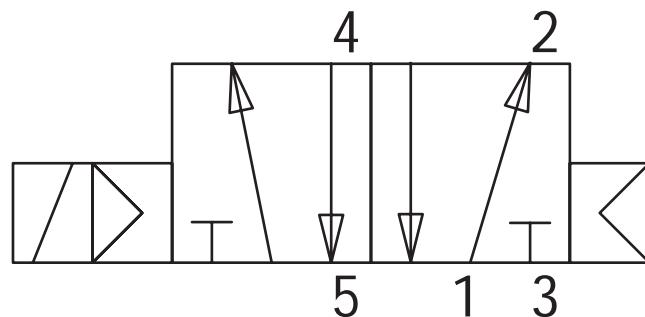
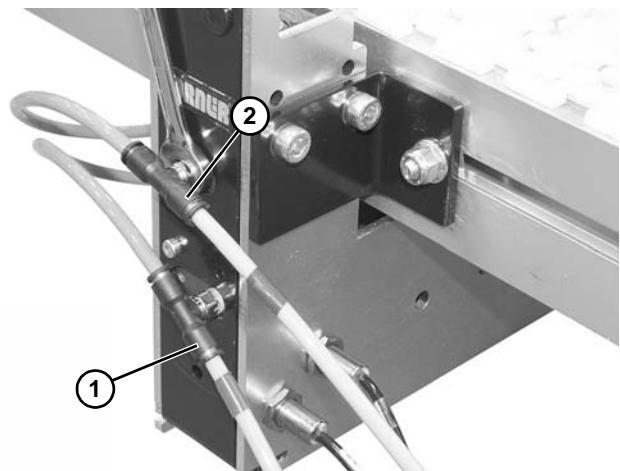

Figure 14
Figure 16
Dorner recommends using a 5 port, 2 way solenoid valve (**Figure 14**) to operate Lift and Locate Pallet Unit.
3. Connect Port 4 (**Figure 14**) of the 5 port, 2 way solenoid to the lowest port (**Figure 16, item 1**) on the lift. Dorner fittings accept 1/4" outside diameter tubing standard.
4. Connect Port 2 (**Figure 14**) of the 5 port, 2 way solenoid to the upper port (**Figure 16, item 2**) on the lift. Dorner fittings accept 1/4" outside diameter tubing standard.